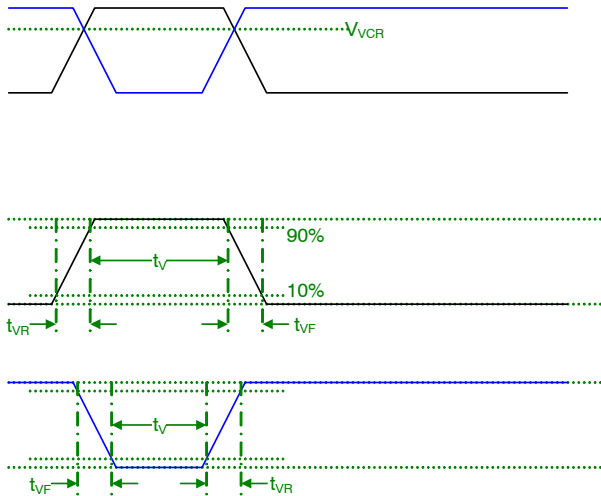

Figure 24. VCCD Clock Rise Time, Fall Time, and Edge Alignment
42. Refer to Figure 24: VCCD Clock Rise Time, Fall Time and Edge Alignment